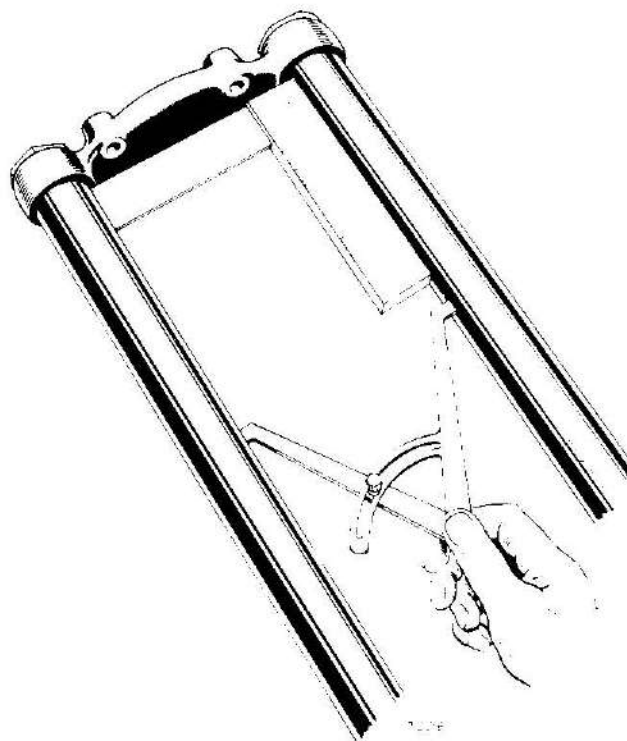

Fig. G4. Checking the top lug for alignment
- (1) Check the stanchions for truth by rolling them slowly on a flat checking table. A bent stanchion may be realigned if the bow does not exceed $\frac{5}{32}$ in. maximum. To realign the stanchion, a hand press is required. Place the stanchion on two swage "V" blocks at either end and apply pressure to the raised portion of the stanchion. By means of alternately pressing in this way and checking the stanchion on a flat table the amount of bow can be reduced until it is finally removed.
- (2) Inspect the top lug by fitting both stanchions (if true) with the cap nuts tightened in position as shown in Fig. G4. Check that the stanchions are parallel to each other in both planes by laying the assembly on a checking table and taking caliper readings as shown. Using a set square, check that the stanchions are at right angles to the top lug.